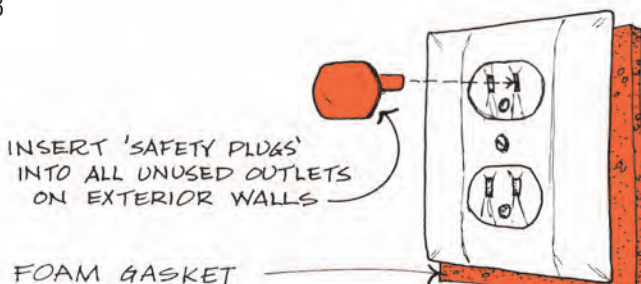

Figure 19
- Use commercially available inexpensive Canadian Standards Association (CSA) approved gaskets between the plate and wall (Figure 19).
Child “safety plugs” can be placed in unused outlets to stop airflow through the holes (Figure 19).